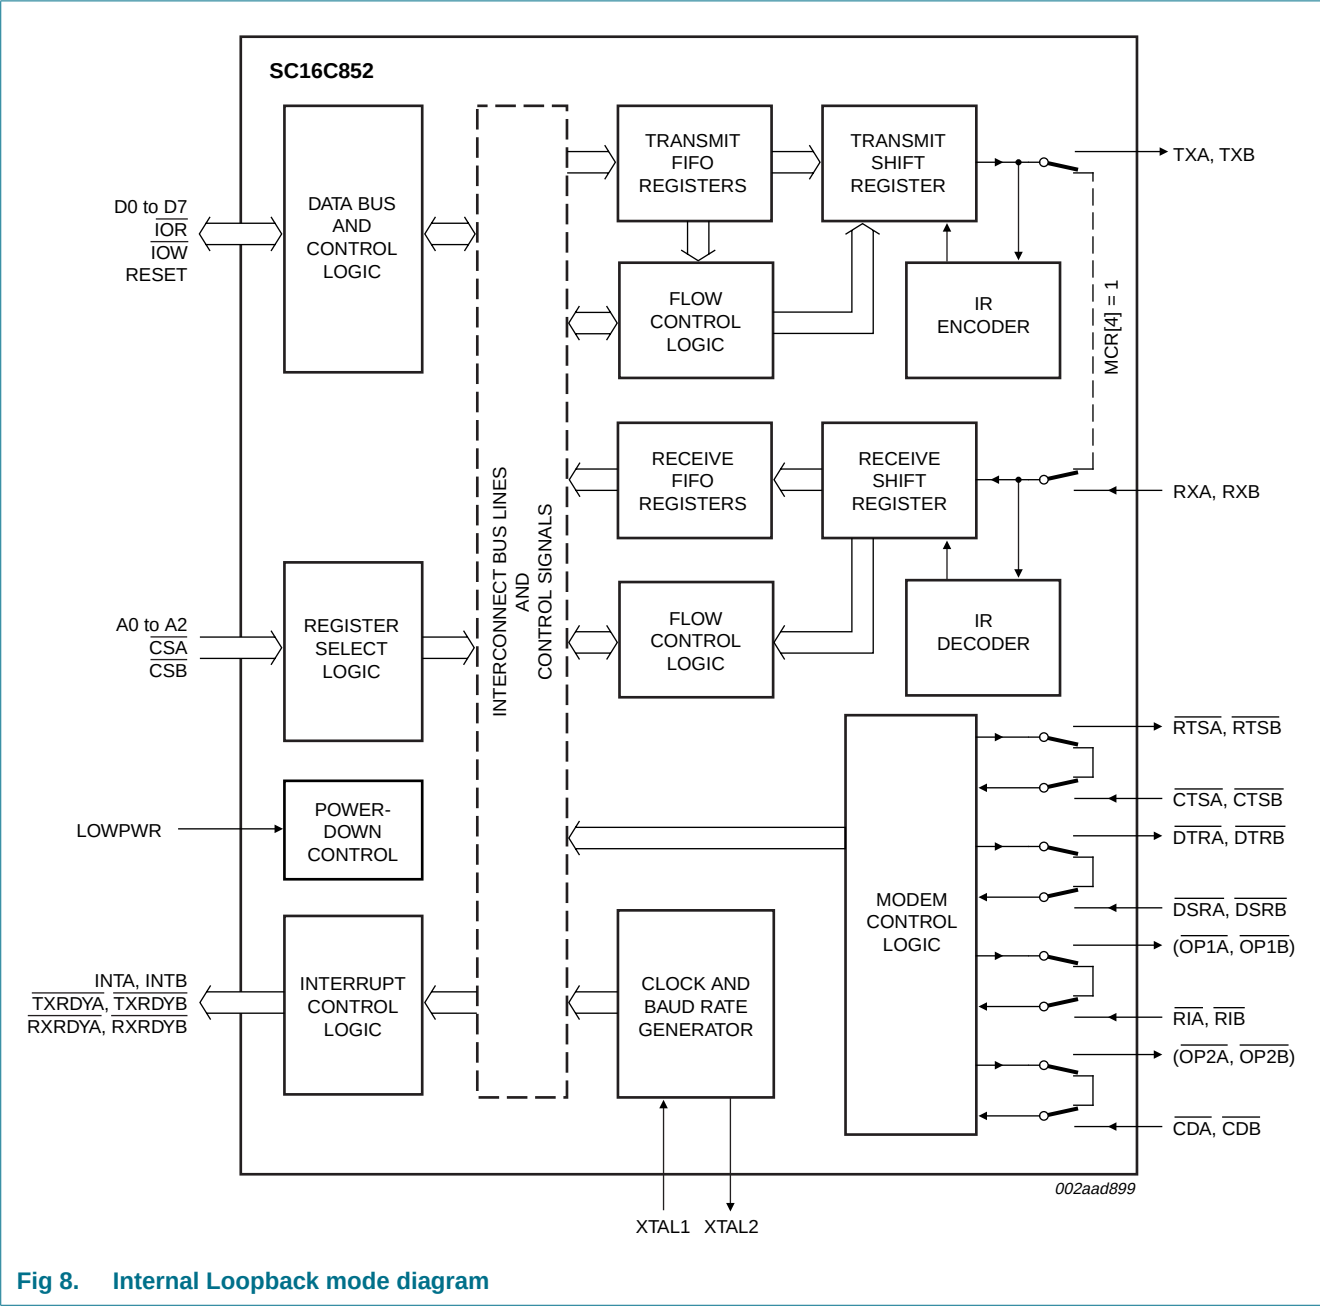

Fig 8. Internal Loopback mode diagram
The internal loopback capability allows on-board diagnostics. In the Loopback mode, the normal modem interface pins are disconnected and reconfigured for loopback internally (see Figure 8). MCR[3:0] register bits are used for controlling loopback diagnostic testing. In the Loopback mode, the transmitter output (TX) and the receiver input (RX) are disconnected from their associated interface pins, and instead are connected together internally. The $\overline{\text{CTS}}$, $\overline{\text{DSR}}$, $\overline{\text{CD}}$, and $\overline{\text{RI}}$ are disconnected from their normal modem control input pins, and instead are connected internally to $\overline{\text{RTS}}$, $\overline{\text{DTR}}$, MCR[3] ($\overline{\text{OP2A}}$ / $\overline{\text{OP2B}}$) and MCR[2] ($\overline{\text{OP1A}}$ / $\overline{\text{OP1B}}$). Loopback test data is entered into the transmit holding register via the user data bus interface, D[7:0]. The transmit UART serializes the data and passes the serial data to the receive UART via the internal loopback connection. The receive UART converts the serial data back into parallel data that is then made available at the user data interface D[7:0]. The user optionally compares the received data to the initial transmitted data for verifying error-free operation of the UART TX/RX circuits.